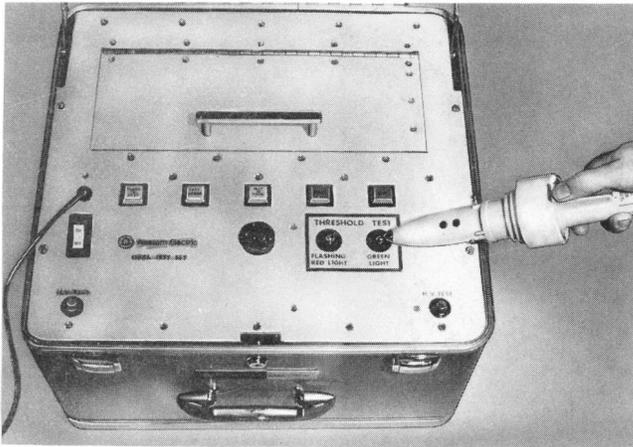

Fig. 7—Touching Post
- Follow instructions on the handle of 188A and touch post marked GREEN LIGHT (Fig. 7).